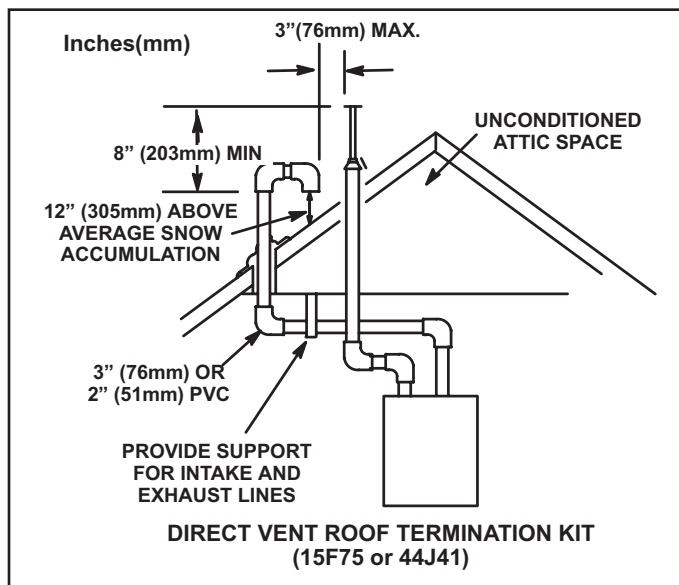

FIGURE 33
Intake and exhaust pipes may be routed either horizontally through an outside wall or vertically through the roof. In attic or closet installations, vertical termination through the roof is preferred. Figures 33 through 41 show typical terminations.
- 3 - On roof terminations, the intake piping should terminate straight down using two 90° elbows (See figure 33).